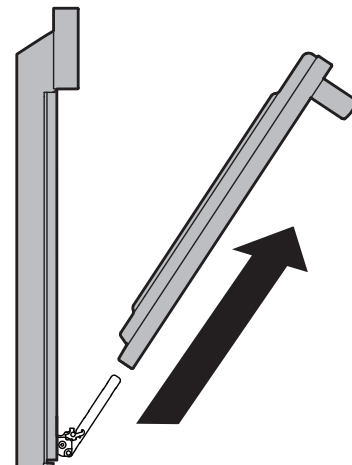

Figure 22: Remove door
4. Pull the bottom of the door toward you while rotating the top of the door toward the appliance to completely disengage the hinge levers (Figure 22).
1. Firmly grasp both sides of oven door along the door sides. Do not use the oven door handle (Figure 22).